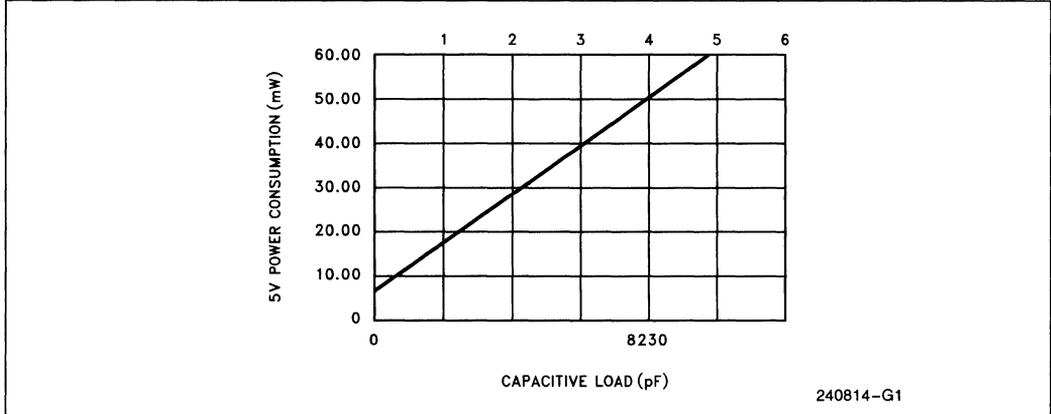
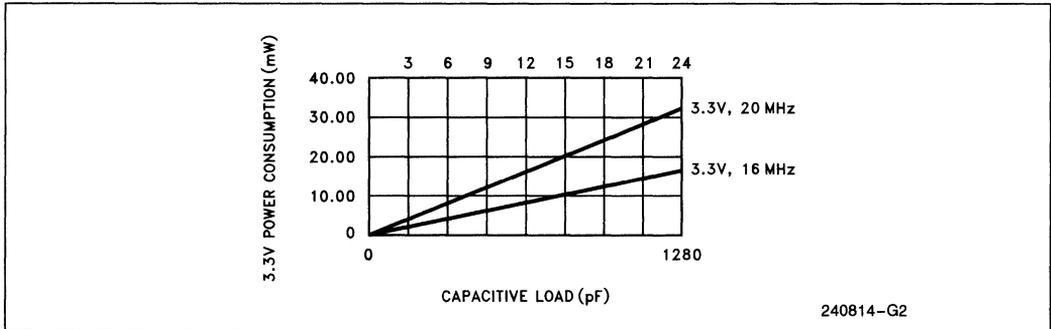
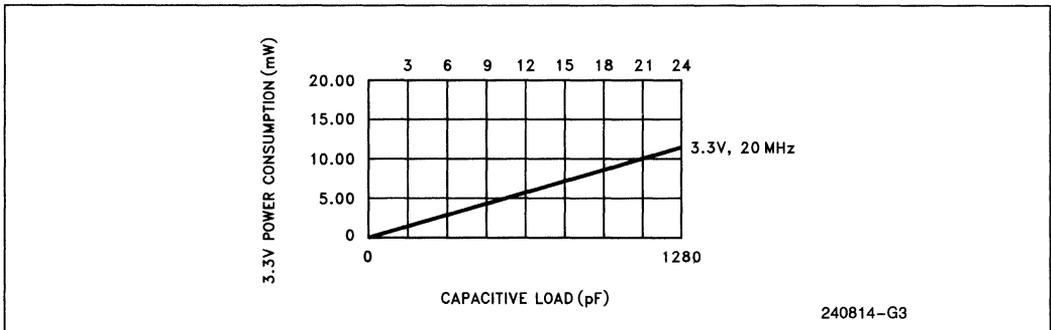

Figure 3.3.1. ISA Bus Power Consumption
Figure 3.3.2a. Memory Bus without Cache
Figure 3.3.2b. Memory Bus with Cache
Figure 3.3.1 illustrates the 5V power consumption in milli-Watts with respect to the capacitive loading on the ISA bus signals of the CPU. A set of two curves with V_{CC} at 3.3V and CPUCLK frequencies at 16 MHz and 20 MHz are plotted in Figure 3.3.2a. The power consumption with respect to load capacitance for the memory bus with a cache subsystem is illustrated in Figure 3.3.2b. To find the power (P in milli-Watts) of the CPU for the configuration of your system, use the following method.
2. From the curves in Figure 3.3.2a, use the total capacitive load of all of the CPU ISA signals to find the 5V power consumed by the ISA-Bus interface.
3. If a cache is connected to the CPU in your system, use Figure 3.3.2b to find memory bus power. If cache is not connected, use Figure 3.3.2a.
Data provided in Figures 3.3.1 through 3.3.2b and in Tables 3.3-8 through 3.3-10 is based on engineering approximation and is given as an evaluation tool only.
From Figure 3.3.1, the 5V power consumed by the ISA expansion interface is found to be 28 mW (the total capacitance of all the pins of a fully loaded AT-bus slot is 2057.5 pF). For a system with no cache, the power consumed by the memory bus for 8 chips is about 12 mW from Figure 3.3.2a. The internal power at 20 MHz is 585 mW from Table 3.3-8. The power consumed by CPU is the sum of the power for the internal power (ISA and CPU core) and memory bus. The total power consumed by the CPU for this system is 625 mW.
For a system with cache, the ISA bus interface power is 28 mW as previously determined. The memory bus interface power determined from Figure 3.3.2b is found to be 4 mW. The internal power remains 585 mW. The cache bus power is read off from Table 3.3-9 to be 15 mW and the cache internal power from Table 3.3-10 is 82 mW. Hence, in this system, the CPU consumes a total of 714 mW.